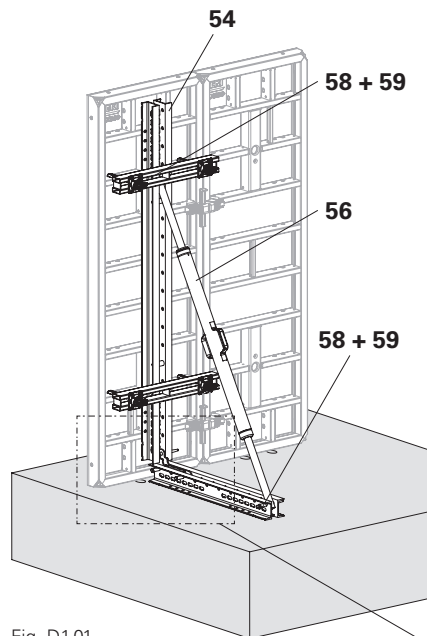
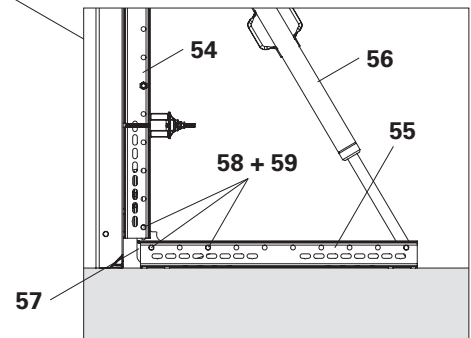

Fig. D1.01
Fig. D1.02b
5. Unspindle the Heavy Duty Spindle SLS 140-240 (56) and fix it to the Steel Waler SRU 247 U120 (54) and Steel Waler SRU 122 U120 (55) with Fitting Pin Ø21x120 mm (58) and Cotter Pin 4/1 ga (59). (Fig. D1.01 – Fig. D1.02b)
6. Spindle the Steel Waler SRU 247 U120 (54) vertically.